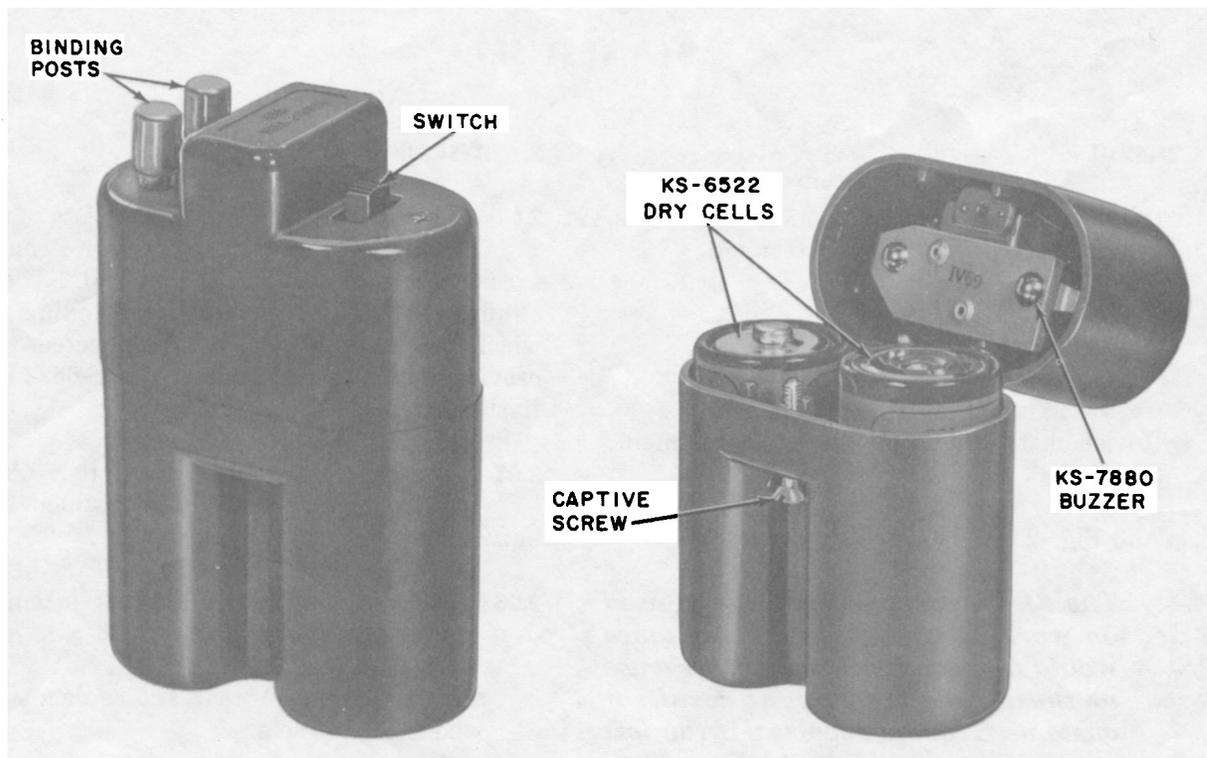

Fig. 1—The 81A Test Set, Closed and Open
2.01 The 81A test set (Fig. 1) consists of a buzzer, capacitor, and switch which are contained in a case made of insulating material. The case is equipped with two spring-type binding posts to which the test leads may be connected. Space is provided within the case for two KS-6522 (standard flashlight) dry cells.
- 4.04 The battery cells must be placed in the test set in series: one right side up and the other upside down (Fig. 1). The battery contact